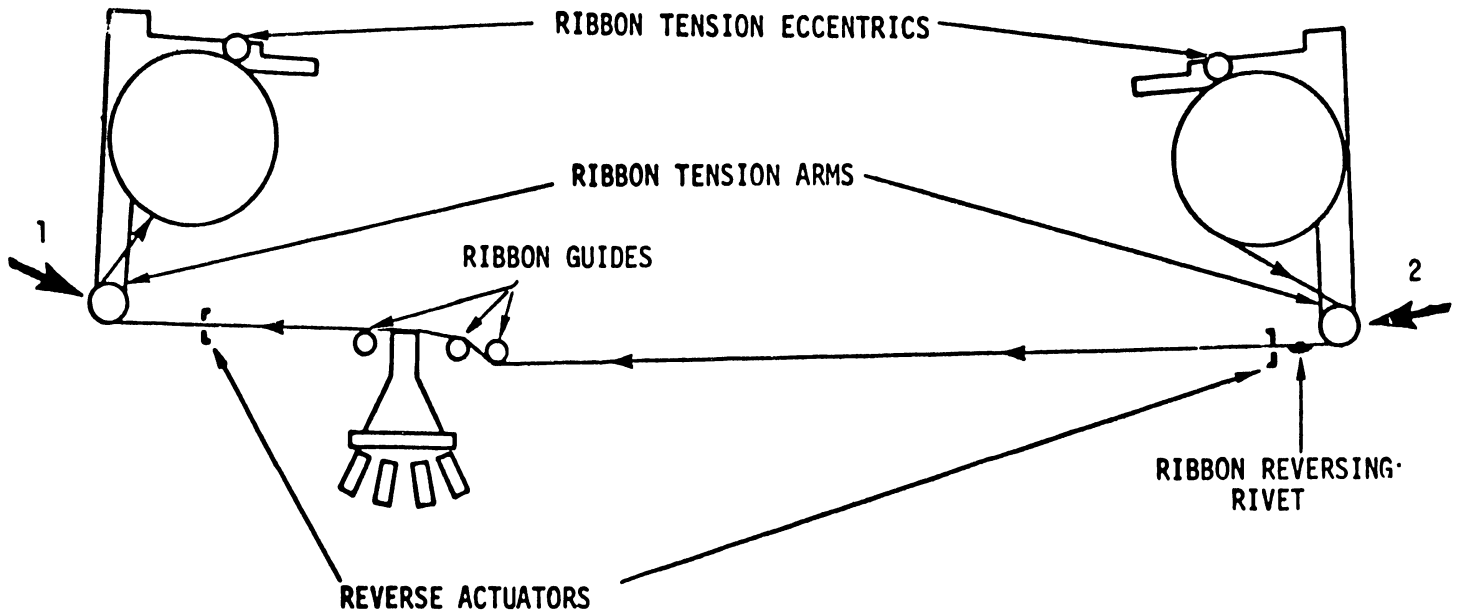

FIGURE 3-4 RIBBON REMOVAL AND REPLACEMENT
3.2 RIBBON REMOVAL AND REPLACEMENT (FIGURE 3-4)